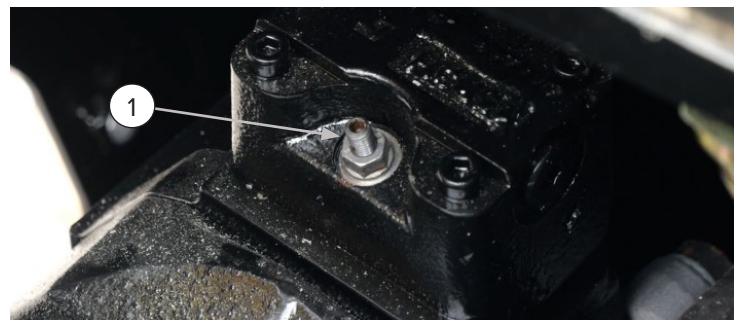

Figure 3
2. Remove the top cover plate at the top of the mulcher and the cap off of the adjustment screw on top of the motor (see Figure 3, Item 1).